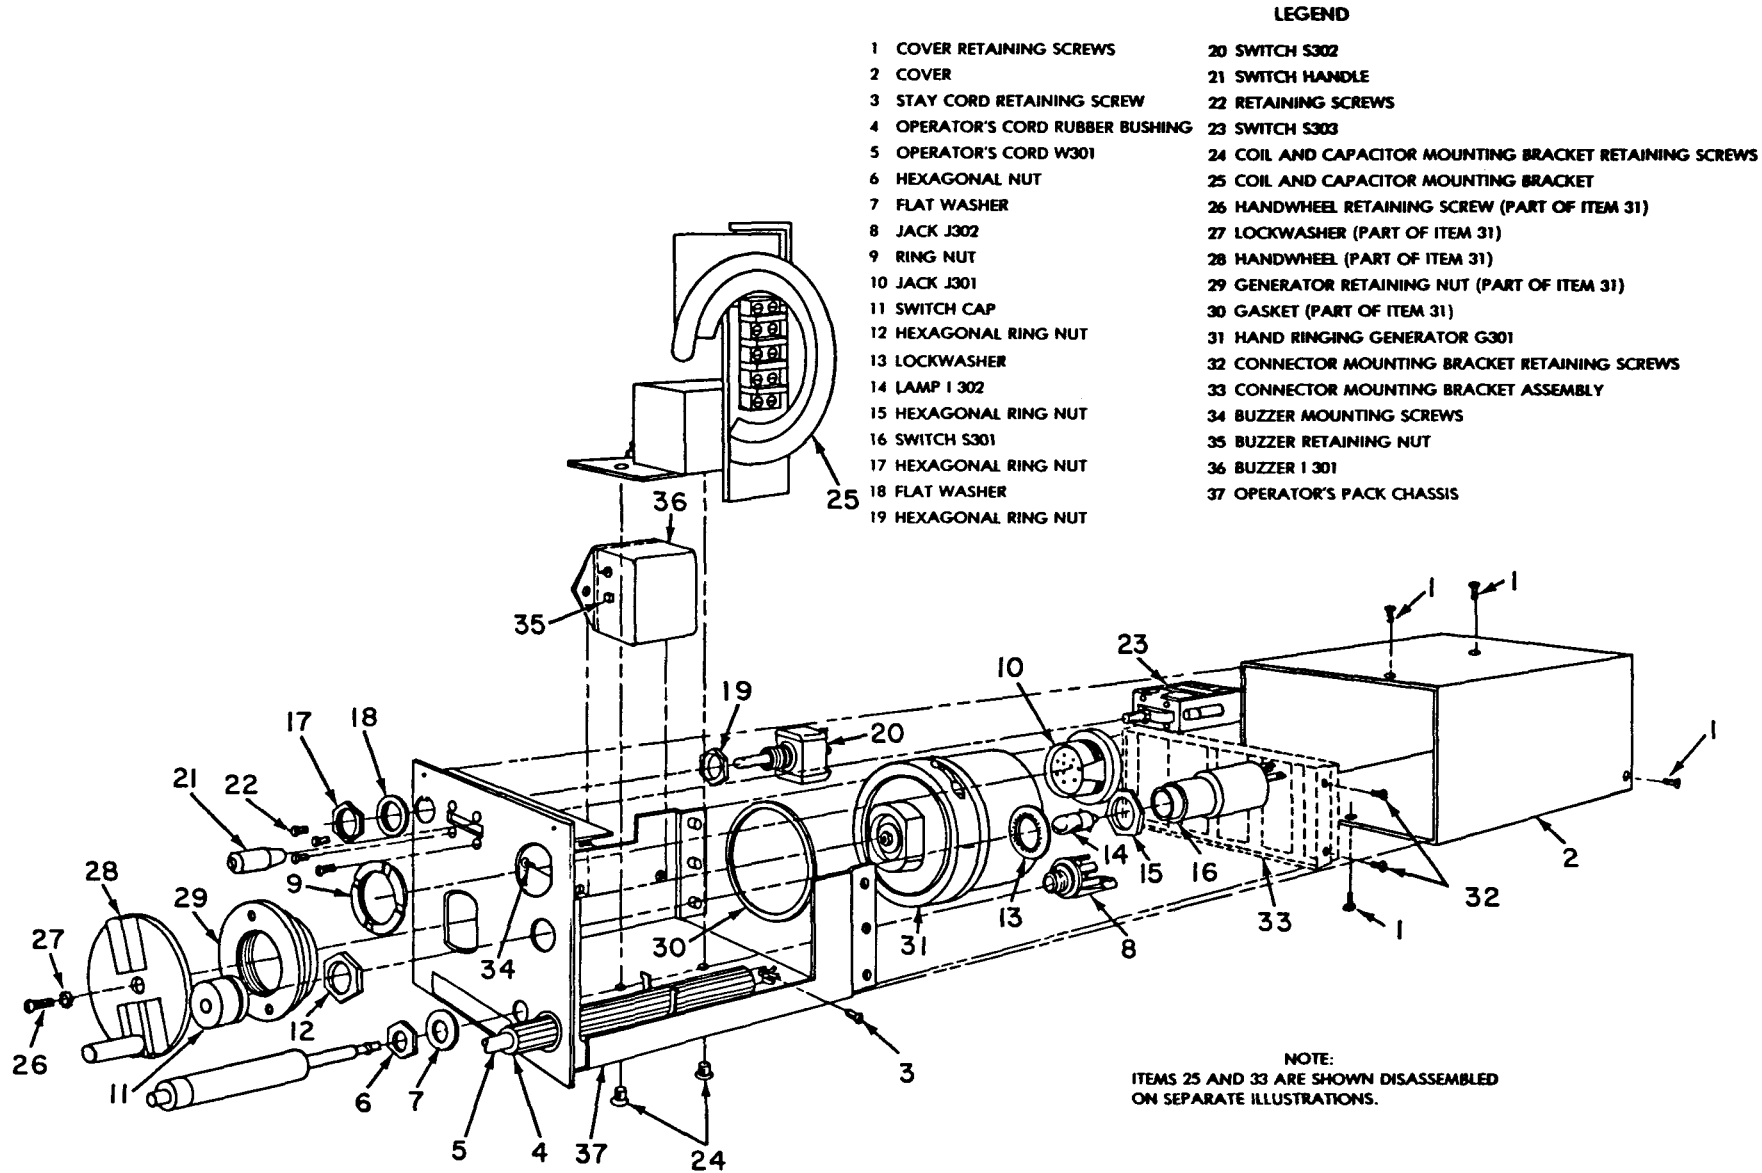
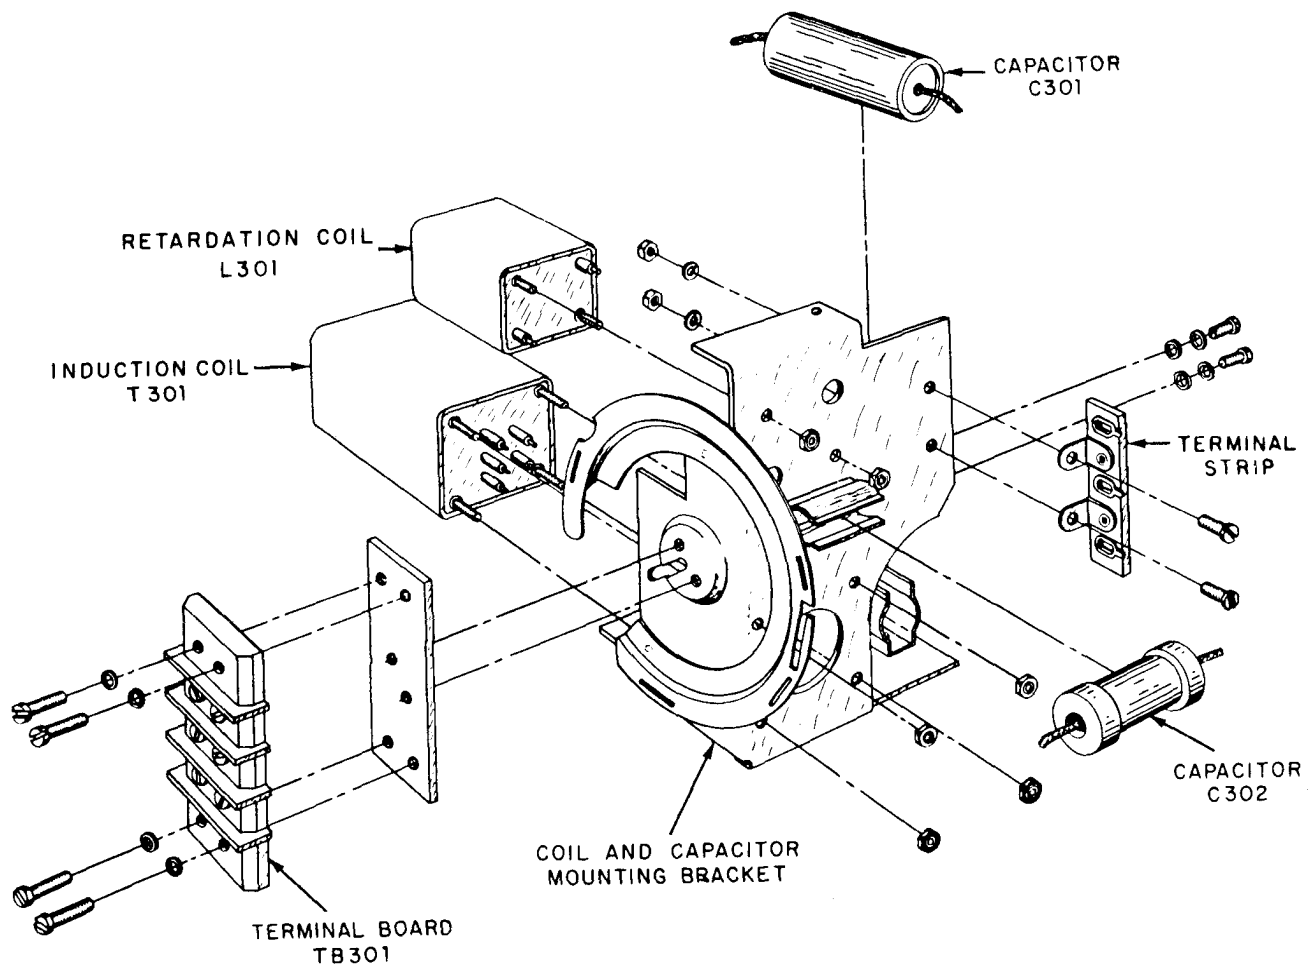

Figure 2-5. Operator's Pack, Exploded View.
Figure 2-7. Coil and Capacitor Mounting Bracket, Exploded View.
### 2-22. Removal of Operator's Pack Cover (fig. 2-5)
### 2-23. Removal and Replacement of Operator's Cord (fig. 2-5)
**2-24. Removal and Replacement of Jack J301 (Receptacle, Connector U-79/U) (fig. 2-5)***a. Removal.*
- (1) Unscrew the ring nut (9) from the front of jack J301 (10), using a spanner wrench.
- (2) Slide the jack out of the front panel toward the rear of the operator's pack chassis (37).
- (3) Disconnect and tag each of the leads connected to the rear of the jack.
- (2) From the rear, slide the jack into the hole in the chassis front panel. Position the flat portion of the jack against the flat portion of the hole in the front panel.
- (3) Replace the ring nut (9, fig. 2-5) on the jack. Tighten the nut with a spanner wrench.
**2-25. Removal and Replacement of Jack J302 (fig. 2-5)***a. Removal.*
- (1) Remove the hexagonal nut (6) and the flat washer (7) from the front of jack J302 (8) with a wrench.
- (2) Slide the jack out of the front panel, and pull it out to the side of the operator's pack chassis.
- (3) Note the position of the leads connected to the jack, and disconnect the leads.
- (2) From the rear, slide the jack into the hole in the front panel.
- (3) Replace the flat washer (7, fig. 2-5) and the hexagonal nut (6). Tighten the nut with a wrench.
**2-26. Removal and Replacement of Switch S301 (fig. 2-5)***a. Removal.*
- (1) Pull the switch cap (11) out, and unsolder the three leads connected to the switch terminals. Make sure that the other leads in the operator's pack are clear of the switch and will not be burned during switch removal.
- (2) Turn the switch cap counterclockwise to unscrew it from the front of switch S301 (16).
- (3) Remove the hexagonal ring nut (12) with a wrench from the front of switch S301.
- (4) Slide switch S301 (16) from the hole in the front panel, and remove the lockwasher (13).
- (5) Push in on lamp I302 (14), and turn it counterclockwise. Pull the lamp from the socket.
- (6) Unscrew the hexagonal ring nut (15) from switch S301.
- (4) Insert lamp I302 (14, fig. 2-5) into the socket in the front of the switch, and lock the lamp into position by turning it clockwise.
- (5) Screw the switch cap (11) on the front of the switch.
**2-27. Removal and Replacement of Switch S302 (fig. 2-5)***a. Removal.*
## 2-28. Removal and Replacement of Switch S303 (fig. 2-5)
- (2) Slide switch S303 (23, fig. 2-5) into the hole in the front panel, and replace the four retaining screws (22).
- (3) Replace the switch handle (21).
## 2-29. Removal and Replacement of Hand Ringing Generator G301 (fig. 2-5)
- (2) Replace the gasket (30, fig. 2-5), and slide hand ringing generator G301 (31) through the hole in the front panel of the operator's pack.
- (3) Replace the hand ringing generator retaining nut (29), and tighten it securely.